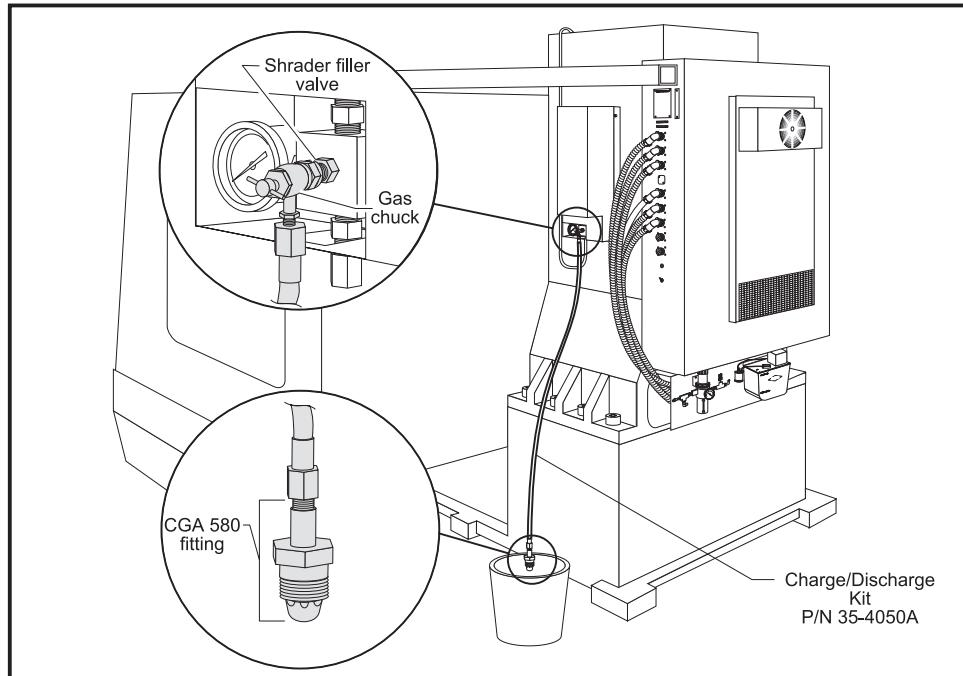

Figure 3-83. Hydraulic counterbalance charge/discharge kit (shown in place to discharge system).
4. Ensure T-handle of the gas chuck is turned completely counterclockwise. Attach charge/discharge kit by tightening gas chuck to the Schrader valve finger tight, then wrench lightly to tighten (see Figure 3-83).